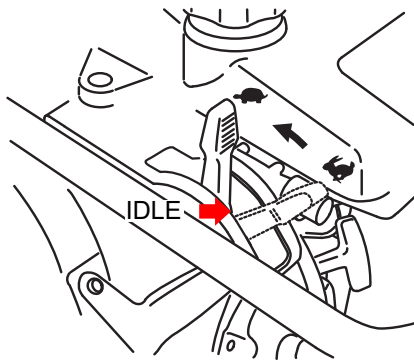

Figure 6. Throttle Lever (Idle Position)
1. Slide the throttle lever from the stop to the idle position (☛) (Figure 6). This opens the fuel cock and the engine electrical circuit is turned on automatically.
3. To stop the tamping action, move throttle lever quickly from **START** to **IDLE** position (Figure 6).
1. Move throttle lever quickly from the **START** to **IDLE** position (Figure 6) and run the engine for three minutes at low speed. After the engine **cools**, move the throttle lever to the **STOP** position (Figure 11). The engine will stop and the fuel cock is automatically closed.